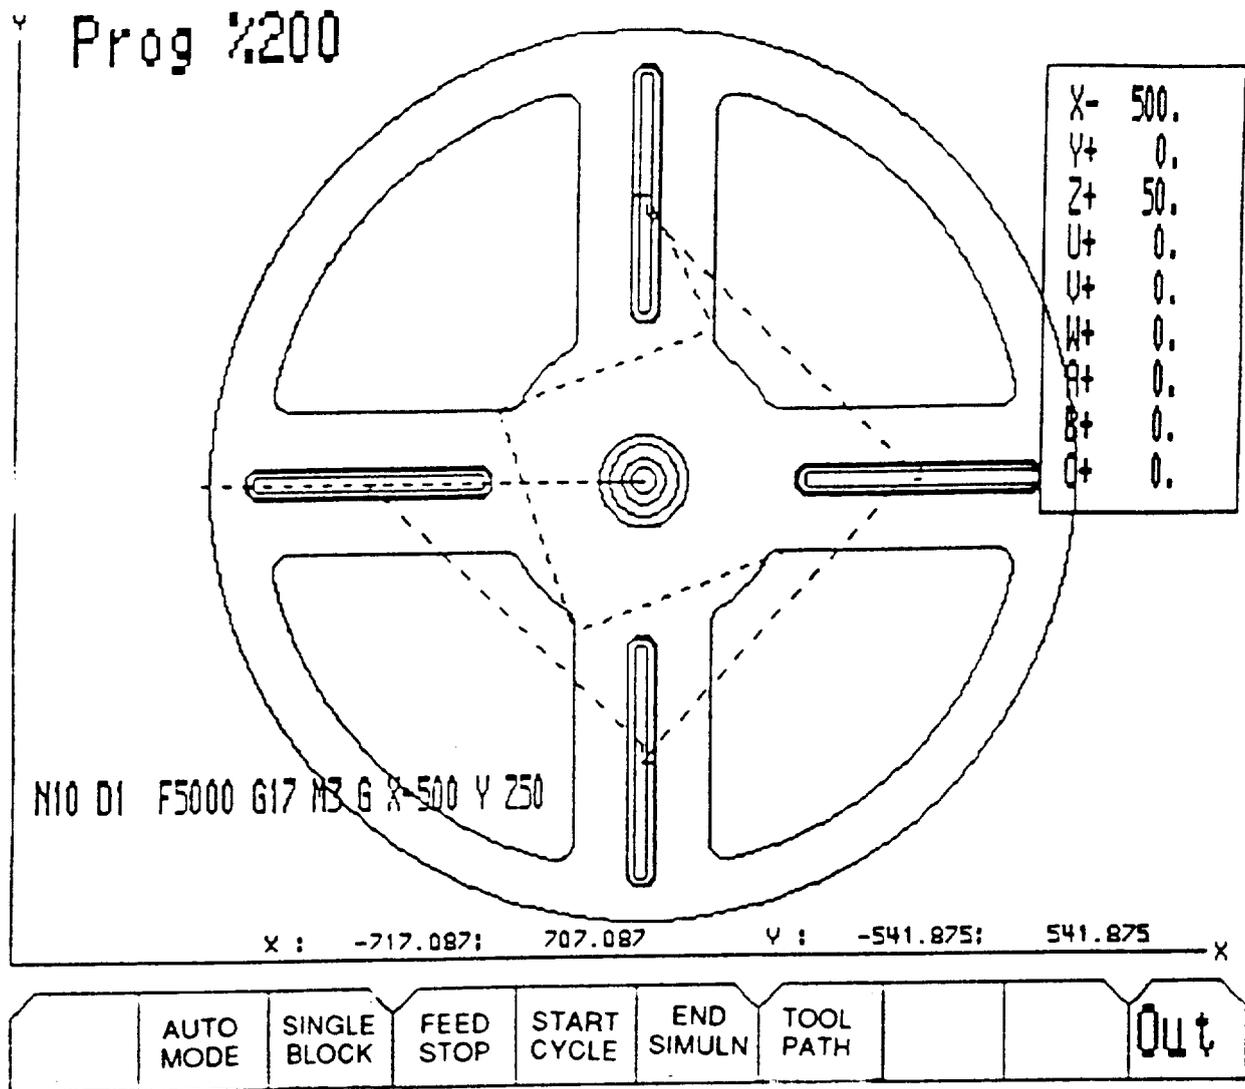

FIGURE 8 - SIMULATION DRAWING
13.3.5 - Drawing in simulation mode (Figure 8)